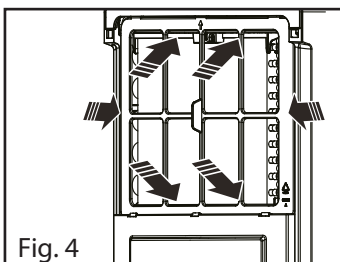

Fig. 4
Re-insert the filter into the clips until it clicks into place as shown in Fig. 4, then check whether it is fastened tightly. Next, assemble the front panel (11) in reverse order.